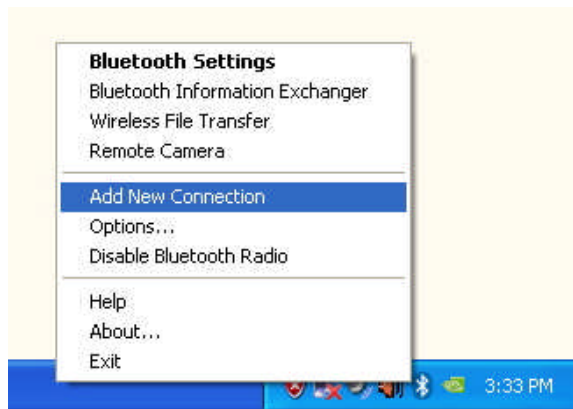

Figure 3.2: Add New Connection
- a. Right-click on the Bluetooth Manager icon in the tray, and then click on “Add New Connection” (Figure 3-2)